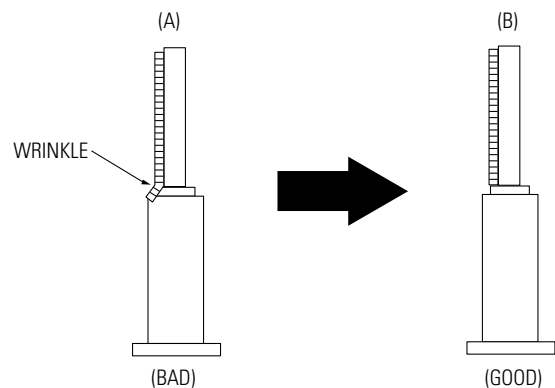

Fig. 2-5 Tape Guide Check
- 2) Confirm that there is no curl or wrinkle at the lower flange of tape guide as shown in Fig. 2-5 (B).
- 3) If a curl or wrinkle of the tape occurs, slightly turn the screw (A) tilt adjust on the ACE head ass'y.